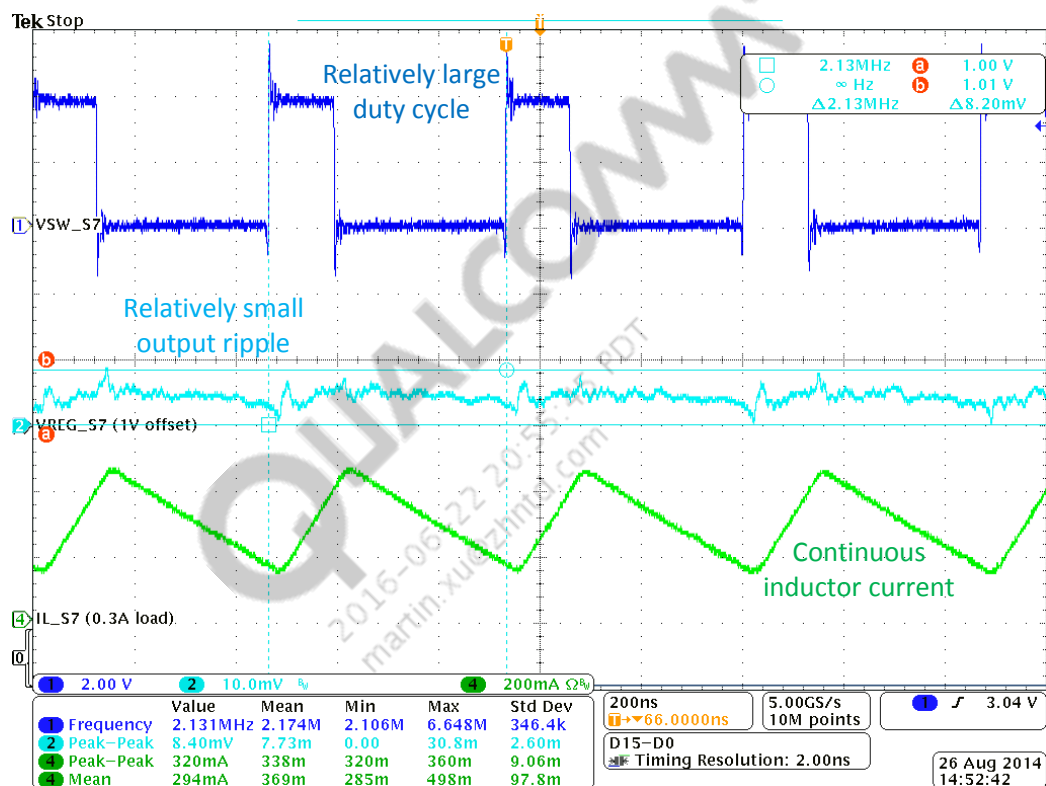

Figure 3 Waveforms of HF-SMPS in CCM PWM
■ **Figure 3** – CCM with $F_{sw} = 2.13 \text{ MHz}$